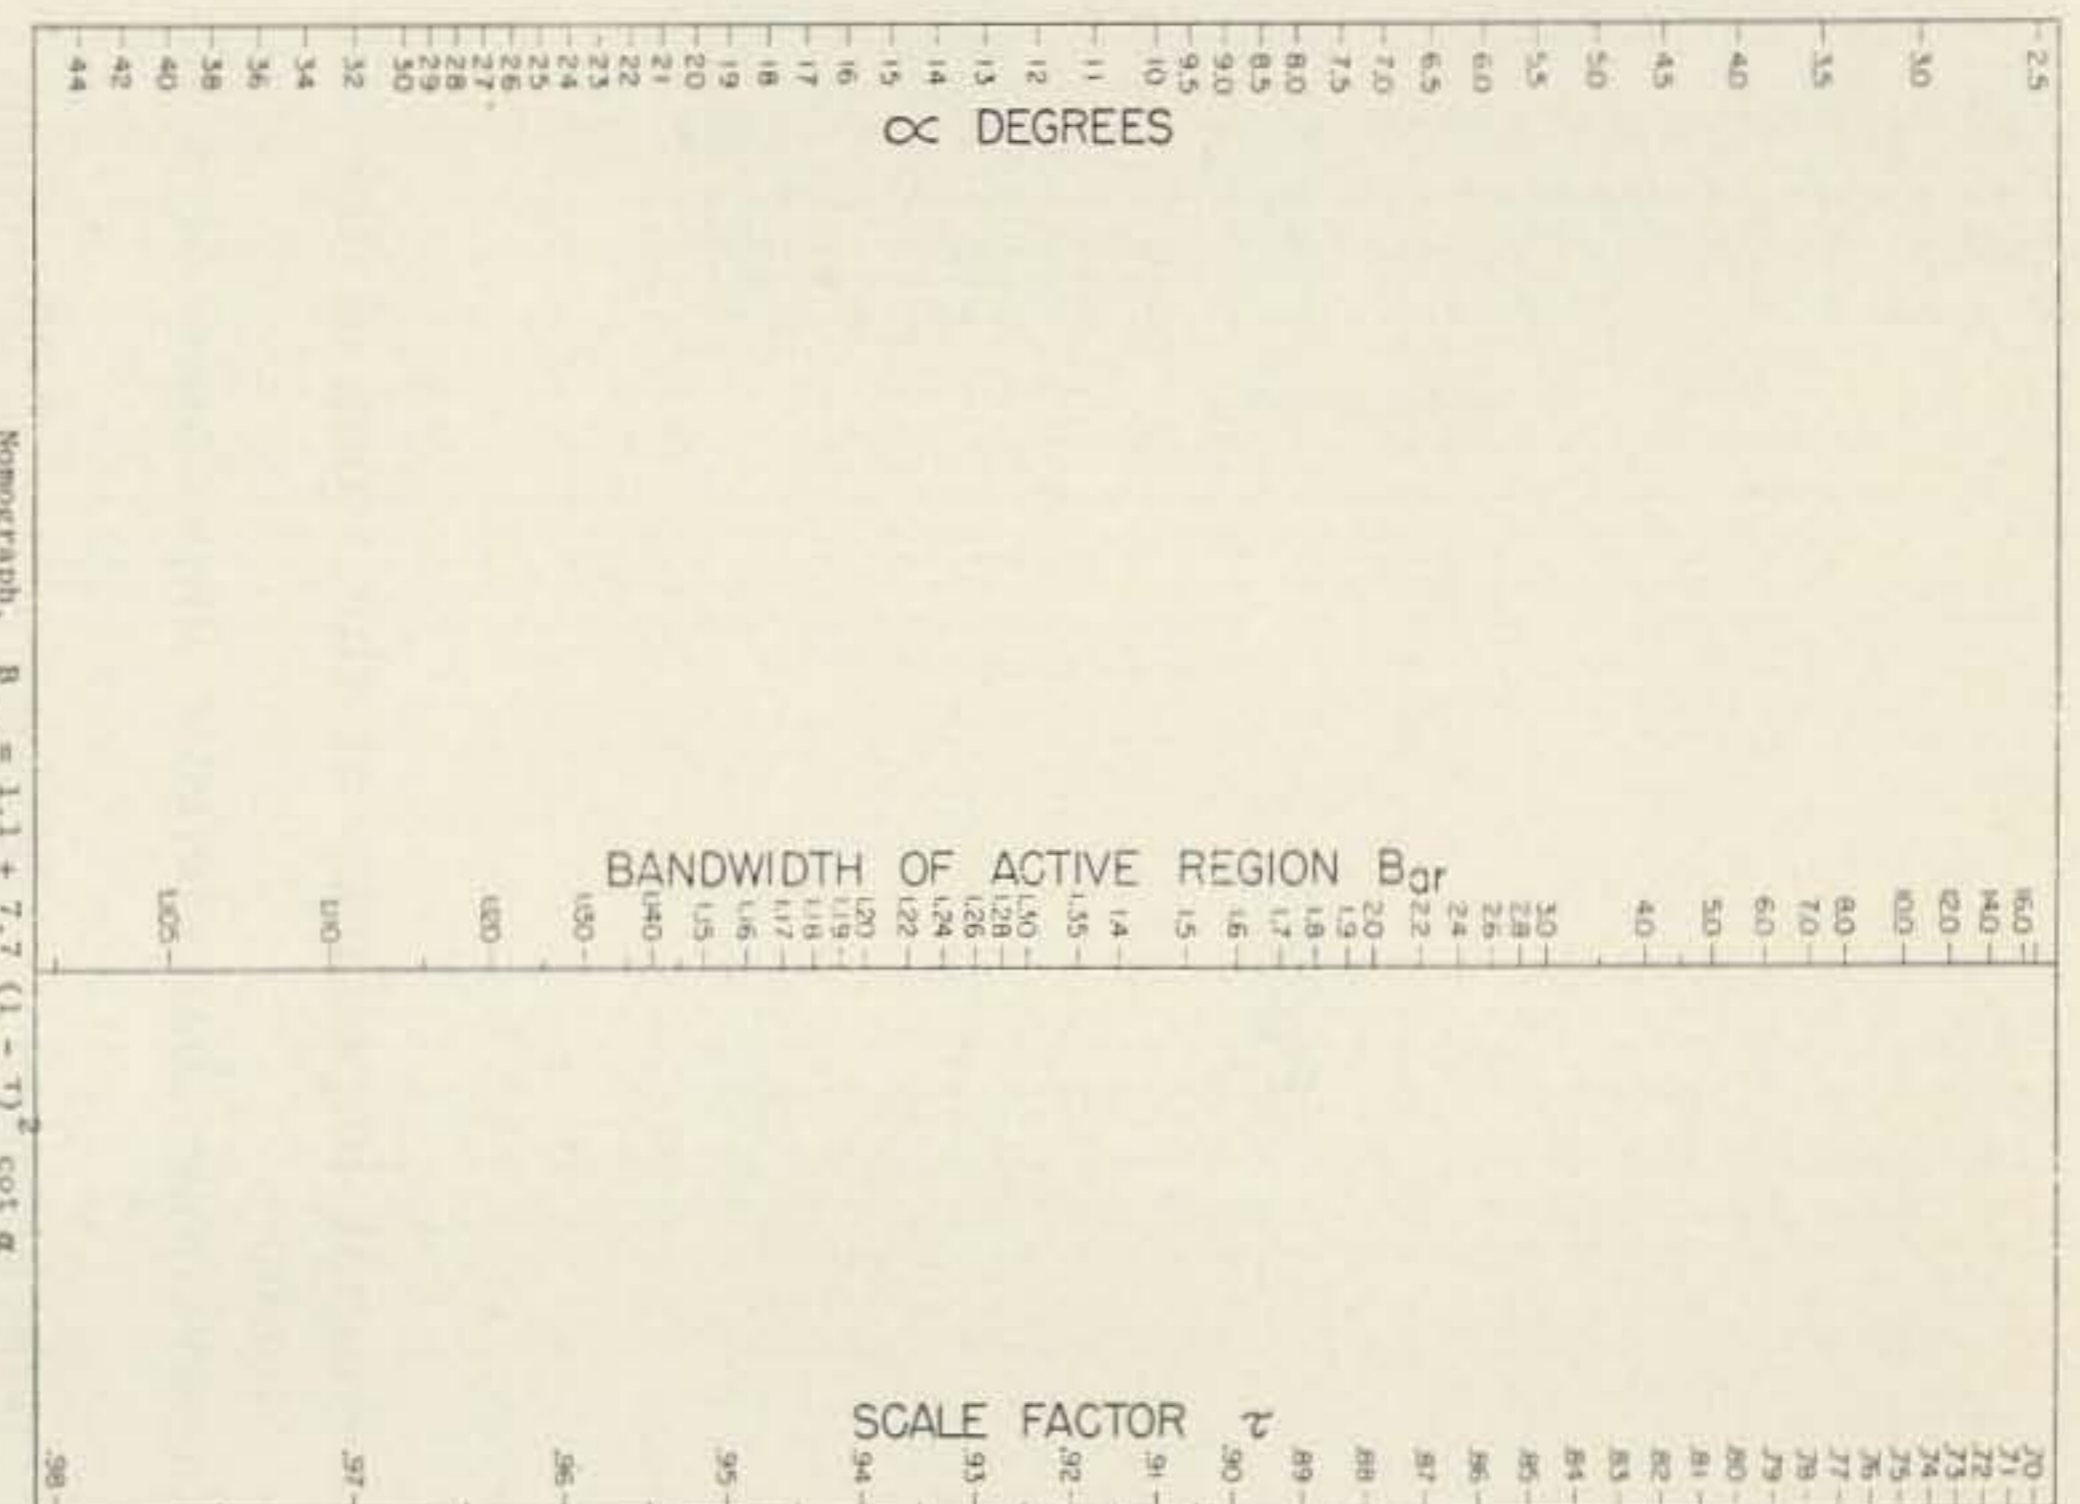

Fig. 4.
c. From Fig. 4, $B_{ar} = 1.8$; $B = 55/50 = 1.1$; $B_s = 1.98$